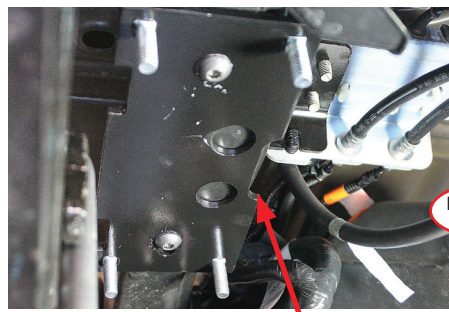
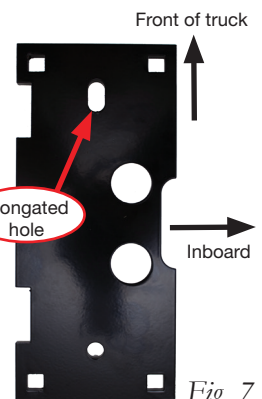

Fig. 6
Fig. 7
5. Insert the 3/8"-16 x 1" carriage bolts (I) into the upper frame brackets (D). Install the upper bracket onto the frame using the M10-1.5 x 35mm button-head cap screws (J). The slot on the side of the bracket should be inboard of the frame rail (Fig. 6). The elongated hole should be toward the front of the truck (Fig. 7). Torque hardware to 38 lb.-ft. (52Nm).